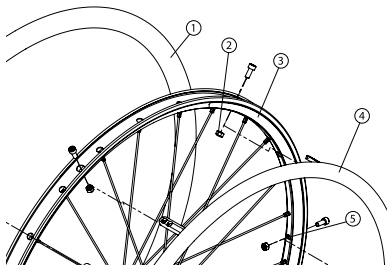

Fig. 33
- Use a plastic tire removal tool to take off the tire (1) (Fig. 33).
- Remove all nuts (2) inside the rim (3).
- Replace the handrim (4) with a new one and align the mounting holes (5).